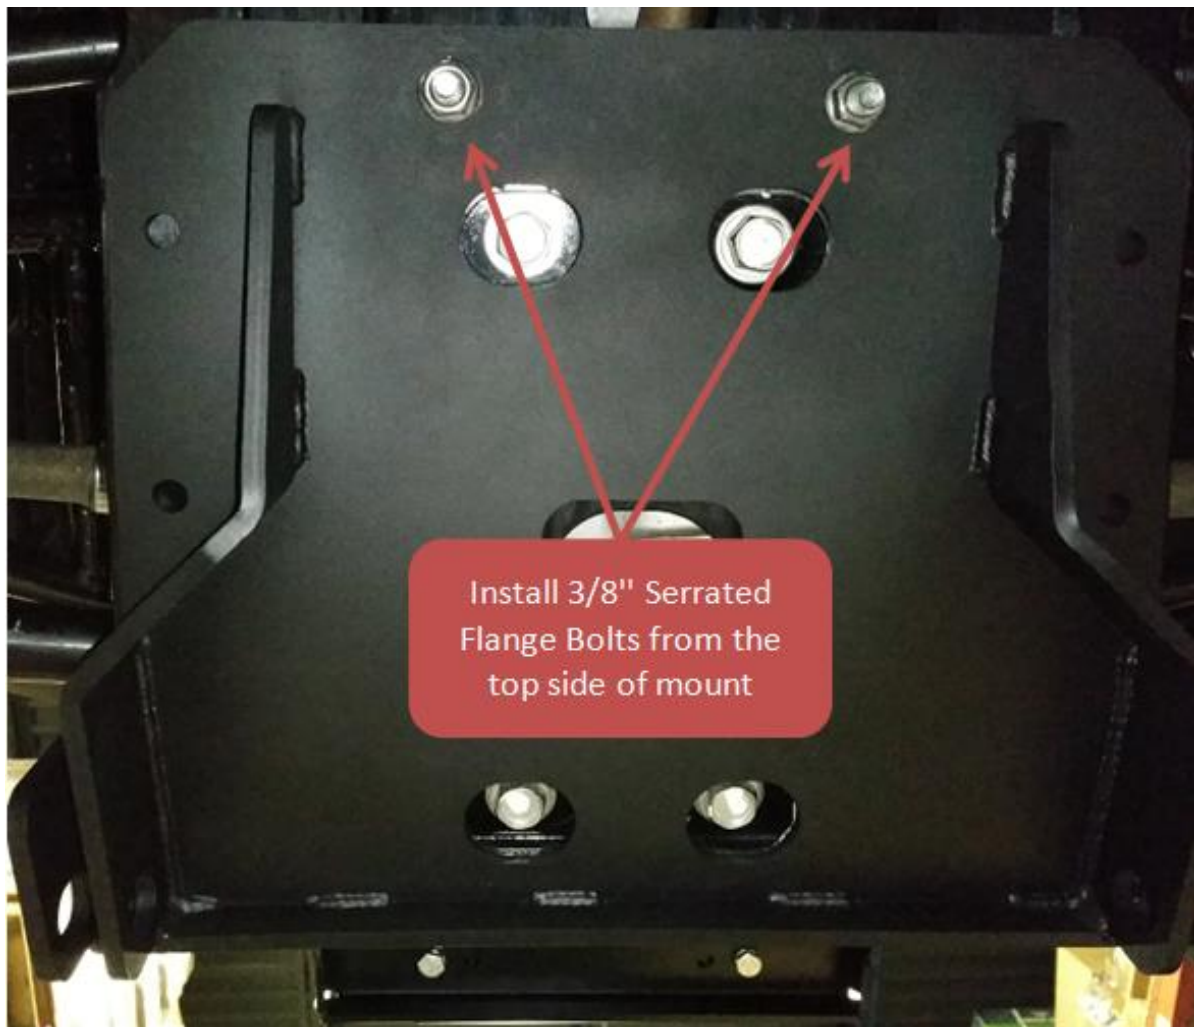

Figure 2
2. Hold the plow mount up to the underside of the Mule so that the three bolts at the front of the mount line up with the three bolts removed earlier. From the top side of the Mule underbody insert two of the 3/8"x1" Serrated Flange Bolts so that they pass through the rear most holes of the plow mount as shown in Figure 2. Secure the bolts using two of the 3/8" Serrated Flange Nuts. Hand Tighten.